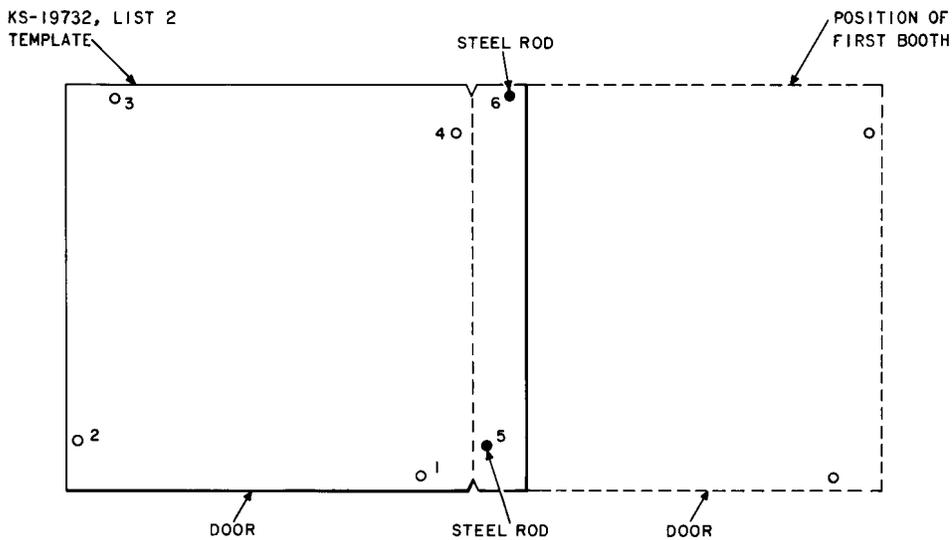

Fig. 13—Right to Left Layout for Drilling Mounting Holes
- (1) Place KS-19732, List 2 template in the position where the right-hand booth will be mounted with the "V" notches on chalk line. Holes 3, 4, and 6 should be to the right.
- (2) Repeat 5.17 (2).
- (3) Move template to the left and align template holes 5 and 6 with previously drilled holes 1 and 2, respectively (Fig. 13). Insert the two steel rods in these holes.
- (4) Repeat 5.17 (4).
- (5) If a third booth is to be installed, move template to the left and align template holes 5 and 6 with previously drilled holes 2 and 3, respectively (Fig. 13). Insert the two steel rods in these holes.
- (6) Repeat 5.17 (4).
- (7) If additional booth positions are required, repeat 5.18 (5) and 5.17 (4) respectively.